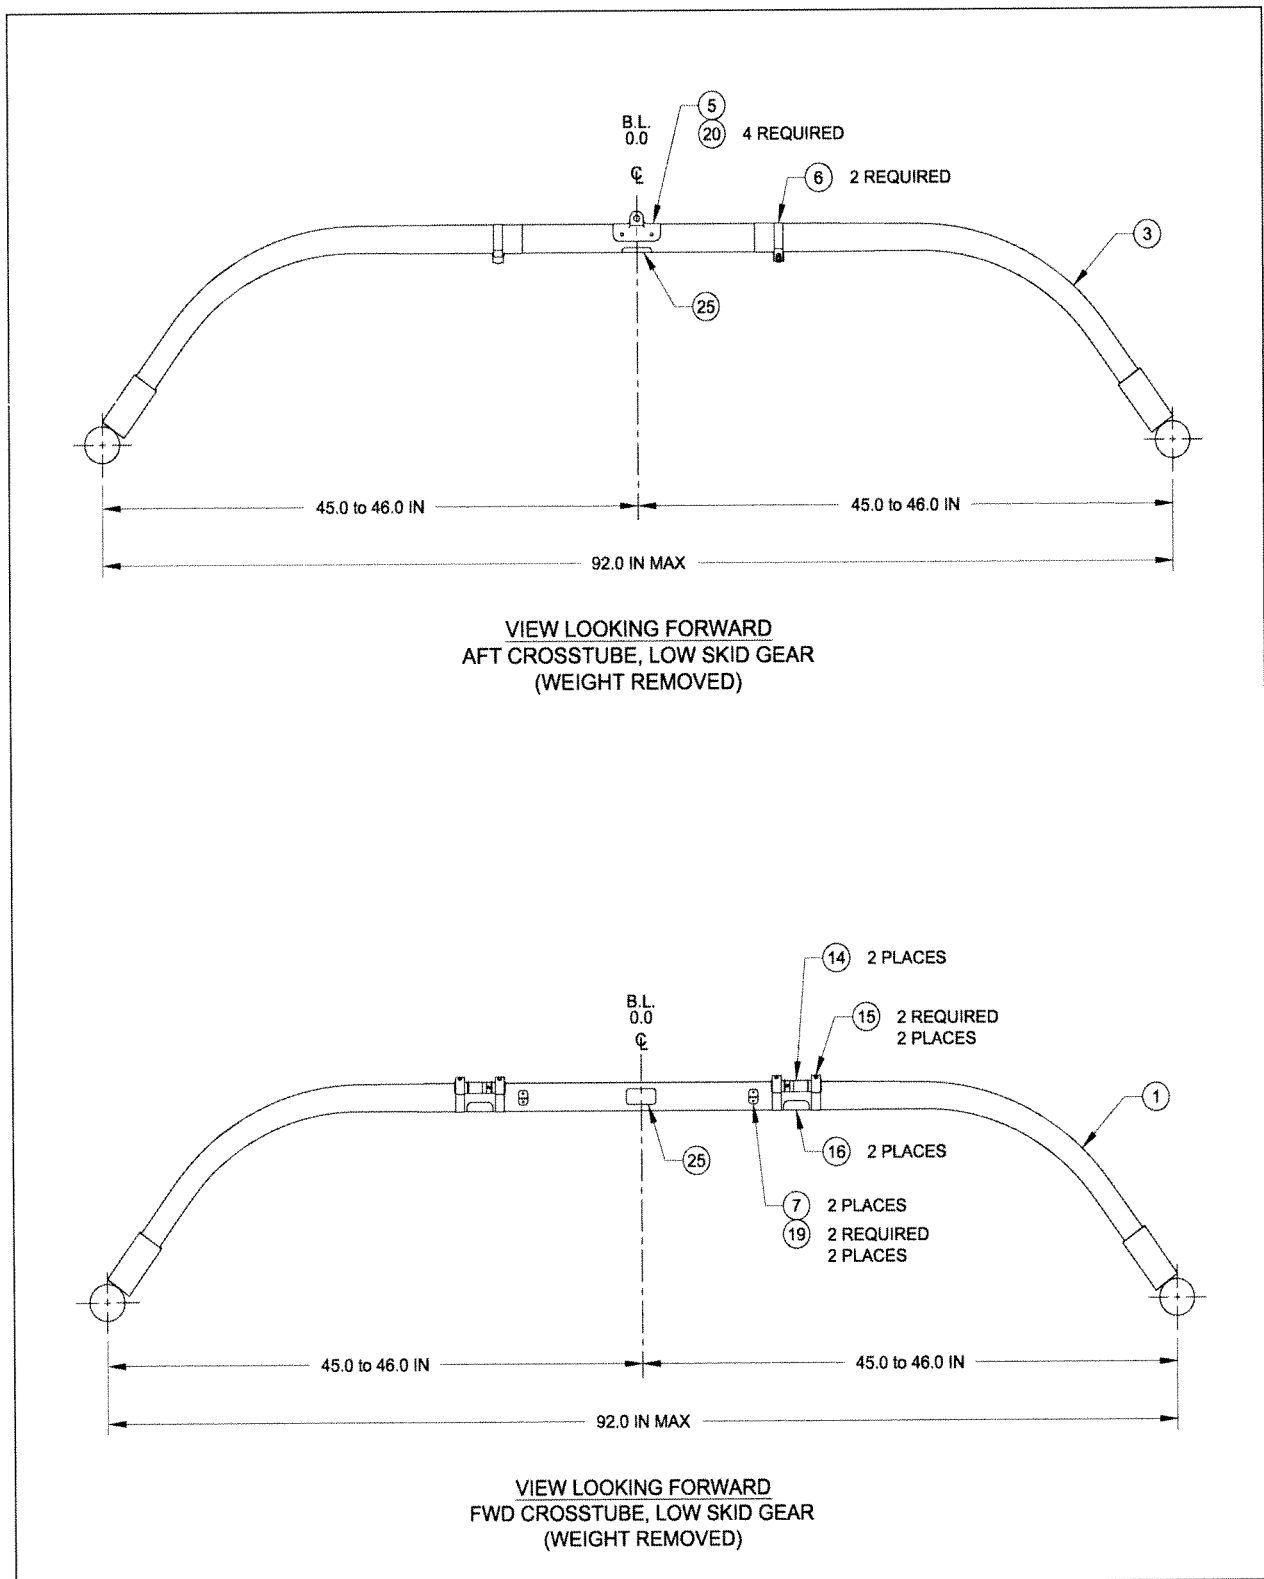

FIGURE 3. LOW SKID CROSSTUBE HORIZONTAL DEFLECTION LIMITS
* See Figures 3 thru 7 for Item Numbers
* See Figures 3 thru 6 for Item Numbers